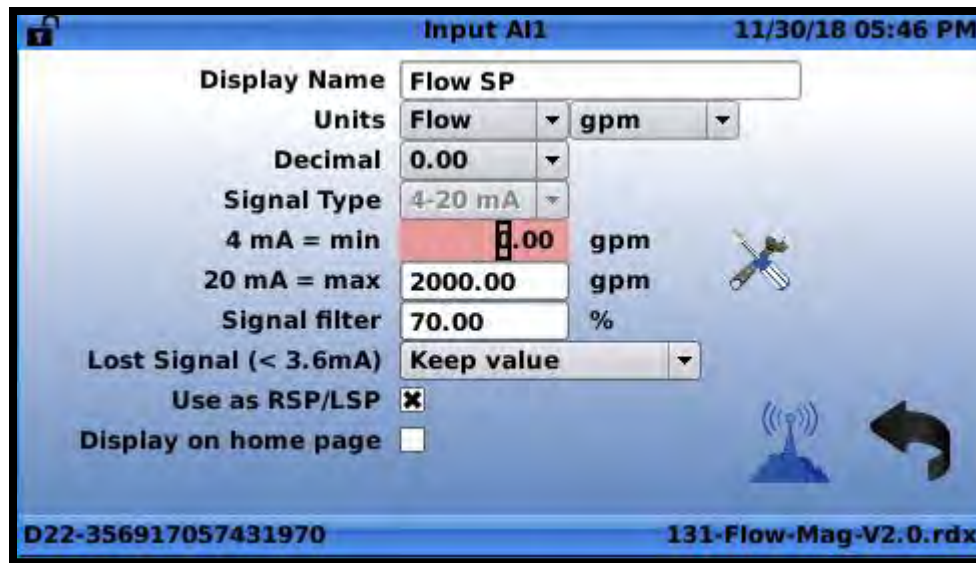

Figure 4.15
2. Press the “OK” button to begin numeric entry. The background will turn red as shown in **FIGURE 4.15**: